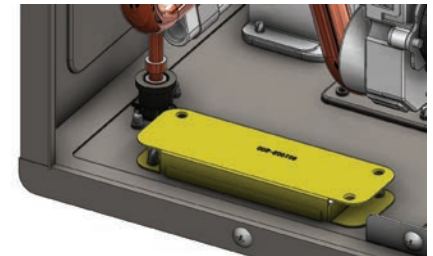

Figure 35 - Air Inlet Plate Orientation
- 5 Locate the air inlet plate as shown in Figure 35. Remove and keep the 3 screws securing it to the base of the water heater. The plate is color coded, and it should be rotated so that the yellow side of the plate is rotated upward. Secure with the 3 screws removed earlier.